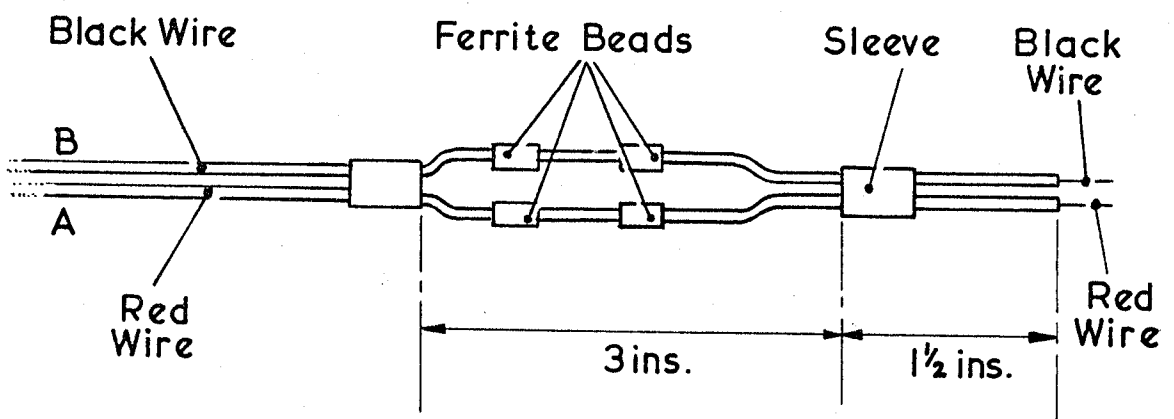

Fig 1 - Ferrite bead and sleeve location
- h. Refer to Fig 1 and assemble the remaining black wire, the red wire, sleeves and ferrite beads as shown.
- j. Solder ends A and B (Fig 1 refers) of the assembly made in h. to the regulator board, red to R7 and black to the same point from which the lead was removed in e.
- n. Strike through without obliterating the figure 1 on the modification record plate attached to the hand generator.